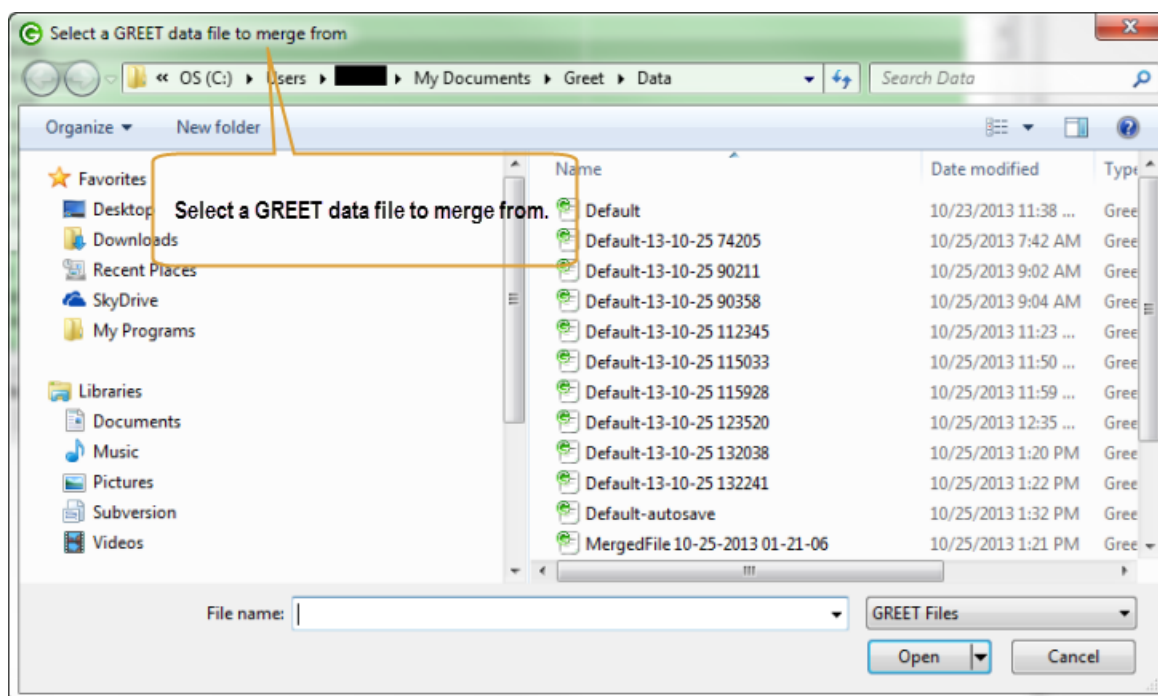

Figure 117: Select the Merge From from the form.
Step 2. Select the Merge From data file. See Figure: 117